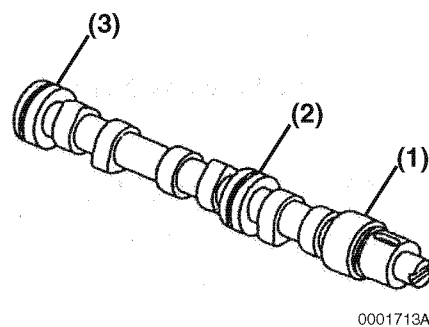

Figure 6-126
4. Measure the diameter of the gear end (**Figure 6-126, (1)**), intermediate (**Figure 6-126, (2)**), and flywheel end (**Figure 6-126, (3)**) bearing journals. See *Camshaft* on page 6-9 for specifications.